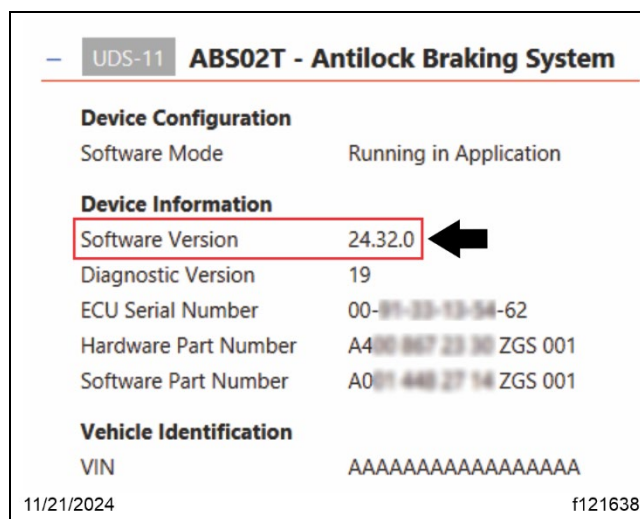

Fig. 58, ABS ECU Software Version
17.3. Open DiagnosticLink, and go to the 'Identification' tab. Navigate to ABS02T - Antilock Braking System, and verify the 'Software Version' is '24.32.0.' See Fig. 58.